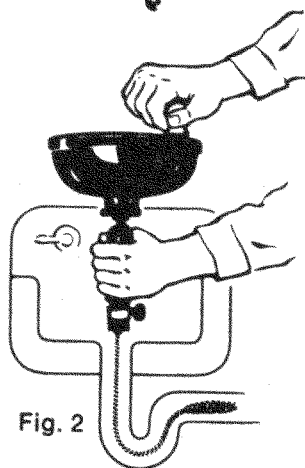

Fig. 2
1. Loosen chuck by turning thumb-screw (A) counterclockwise. Pull out approximately 14" to 16" of cable and tighten thumbscrew.
2. Hold drum as shown in Fig. 2 and place the expanded end of the cable into the drain line opening, turning the drum in a clockwise direction while pushing cable into pipeline.
3. After exposed cable has entered pipeline, repeat procedure outlined in (1) above until sufficient cable is in pipeline to clear stoppage. Keep water running through pipeline, if possible, to flush out debris.
4. After stoppage is removed from pipeline, rotate drum counterclockwise and withdraw cable from line by reversing the procedure in (1) above.